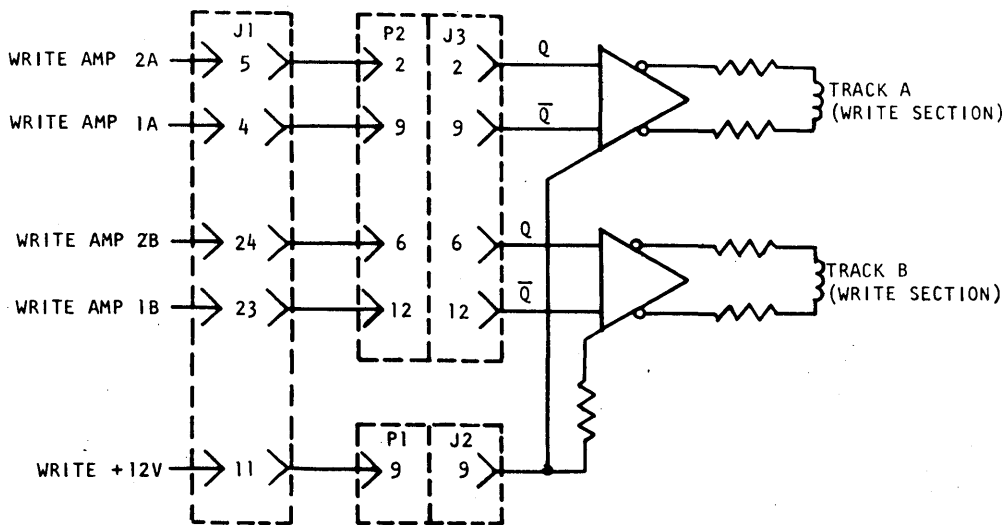

Figure 17. Write Amplifier
Read and Write Electronics - Single Gap Two Track Head. - Each track is equipped with a differential write amplifier (Models 6106-01, 02) which accepts true (Q) and false (Q̄) DTL/TTL digital data and impresses the appropriate magnetic flux on the tape. This is shown diagrammatically on Figure 17 and in detail in the relevant TTU schematic. The connections are listed on Table 4. The maximum recommended packing density is 800 BPI (1600 frpi).